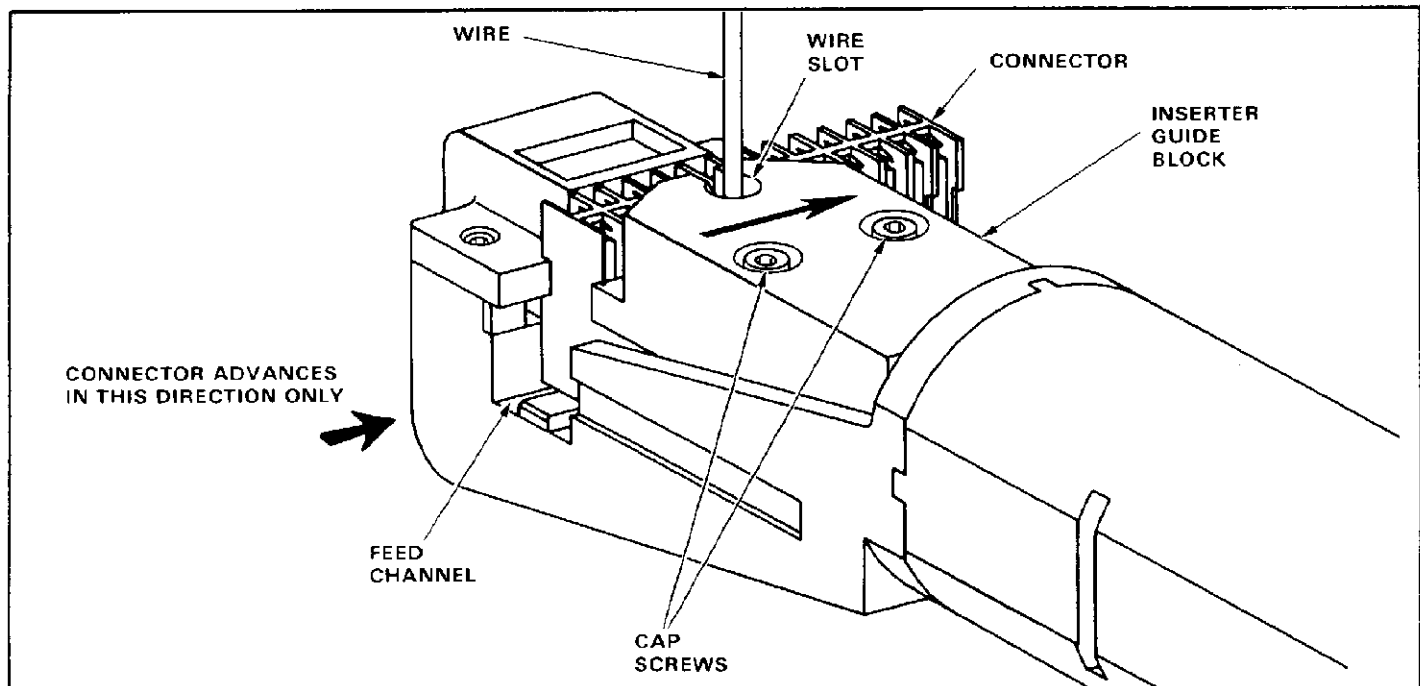

Fig. 2
3. TERMINATION PROCEDURES (Figure 2)